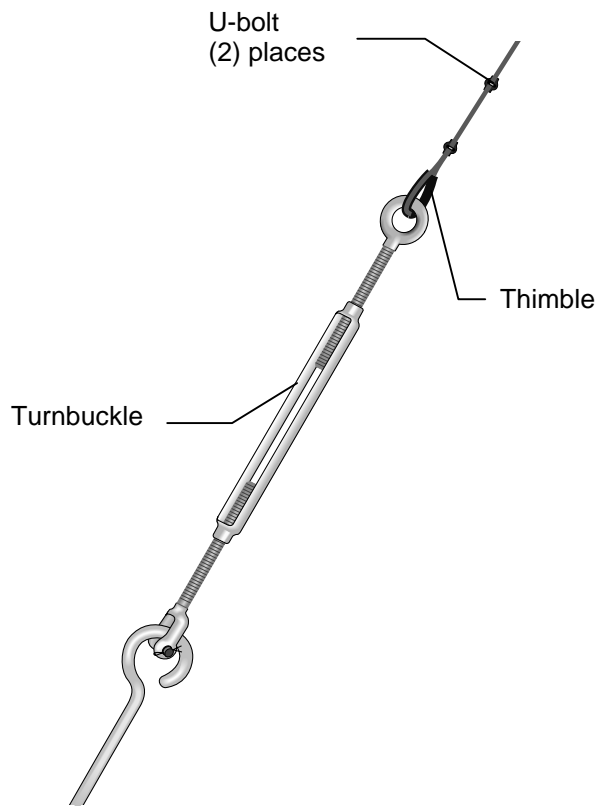

FIGURE 2.1-9. Guy Wire/Turnbuckle Attached to UTEYE Anchor
5. Attach the guy wires to the anchors (Figure 2.1-9). Unscrew the jaw and eye bolts until 1 inch of thread extends through the turnbuckle body. Attach the jaw end of the turnbuckles to the anchors. While holding the tower plumb, attach the guy wires to the eye end of the turnbuckles using a thimble and two U-bolts for each guy wire. Tighten the turnbuckles until the guy wires are snug and the tower is plumb. Do not overtighten the turnbuckles.